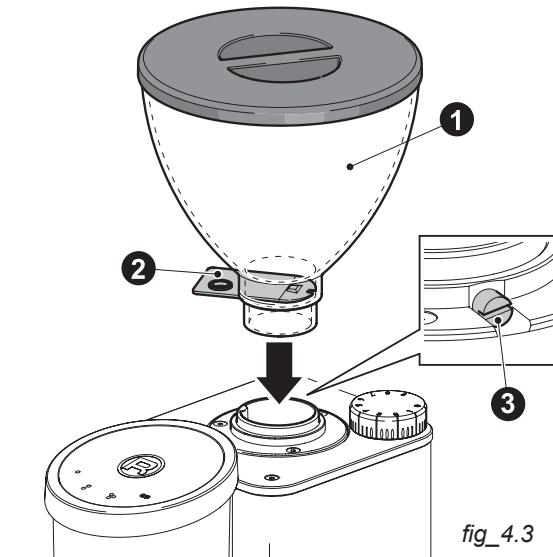

fig.4.3
Place the hopper (1 - fig. 4.3), correctly and stably inside the rubber collar, with the fan inserted (2) and tighten the safety screw(3 - fig. 4.3)